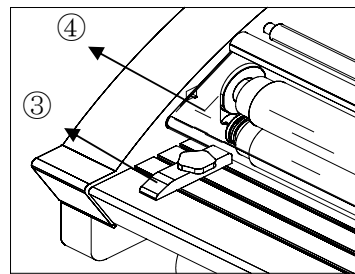

Figure 3
**Feed Guide (3)** -The feed guide permits alignment of the item(s) to be laminated. To position the adjustable guide, loosen the knob, slide it to the desired position and tighten the knob to secure the feed guide in place. (Fig.3)